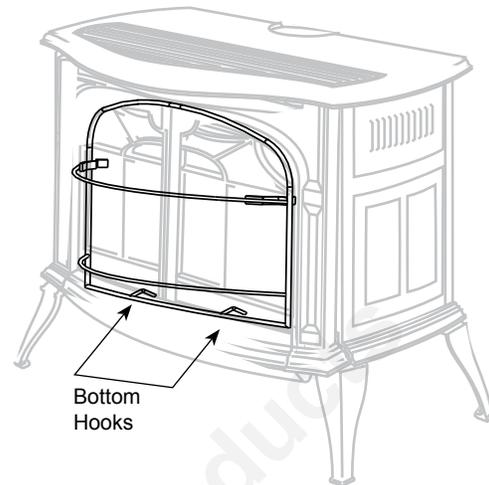

Fig. 55 Install safety barrier screen.
2. Place the two bottom hooks over the bottom edge of the stove opening Figure 55